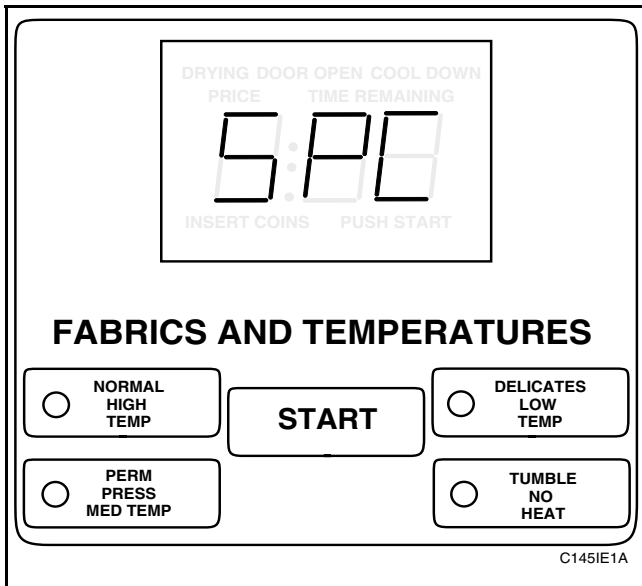

Figure 98
3. While pressing and holding the HIGH TEMP pad with one hand, press the MED TEMP pad with the other hand. The VFD will show “SPC,” *Figure 98*.